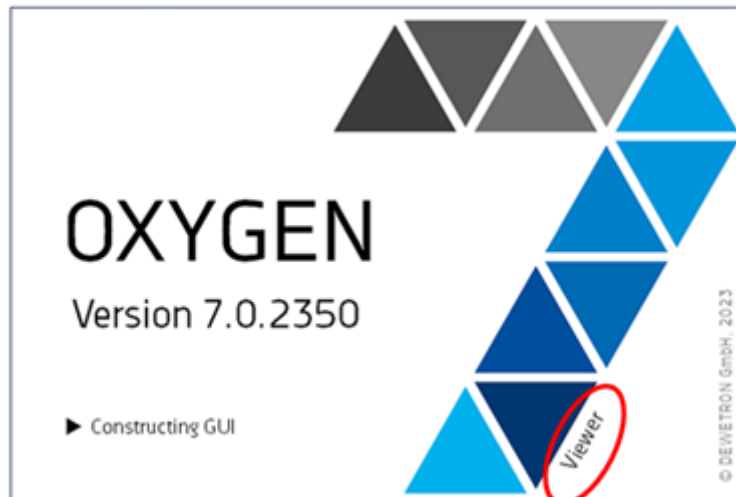

Fig. 3.21: Splash Screen for the OXYGEN Viewer
- It is possible to open OXYGEN multiple times to review and analyze data in the Viewer Mode. Datafiles can be opened directly from a folder, whenever OXYGEN is already running. This Viewer Mode is displayed on the splash screen with the addition “Viewer” when OXYGEN is starting, shown in Fig. 3.21.